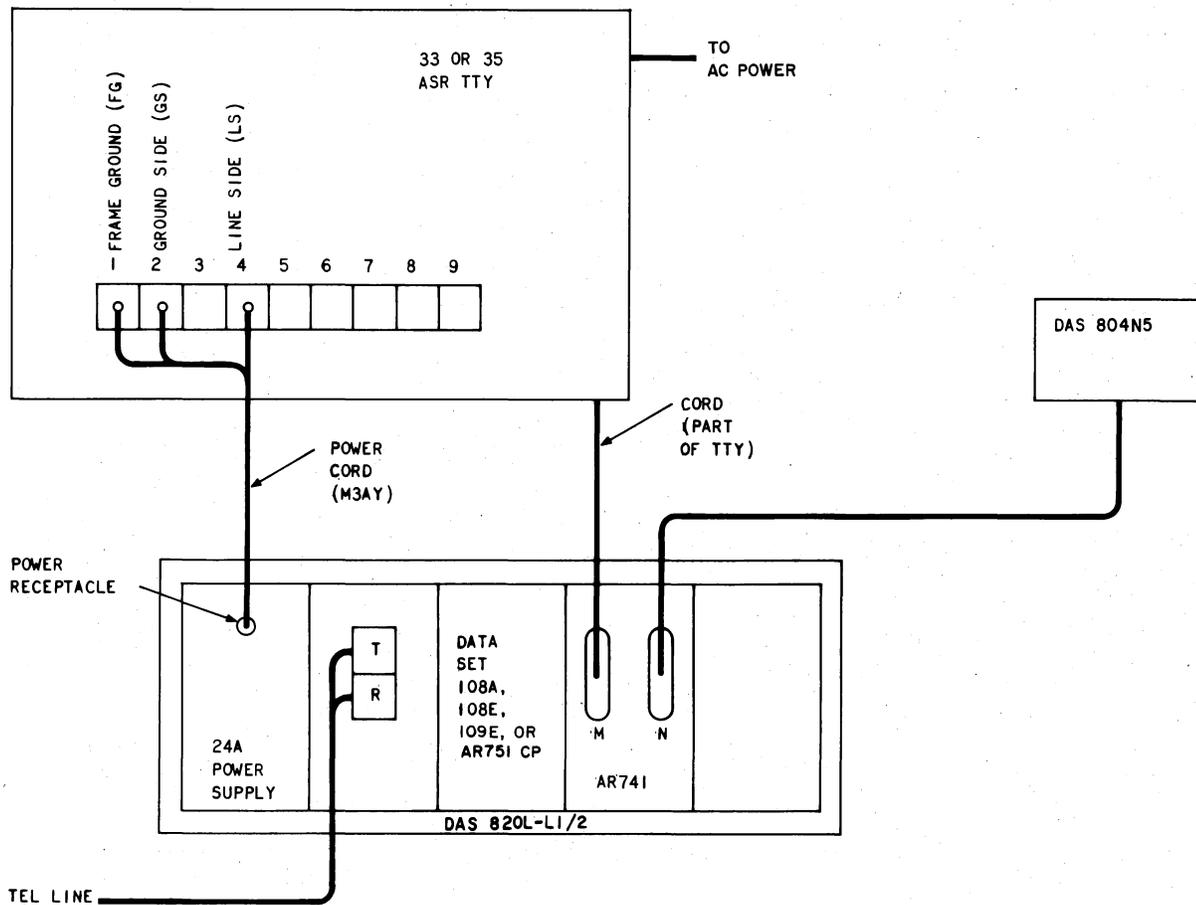
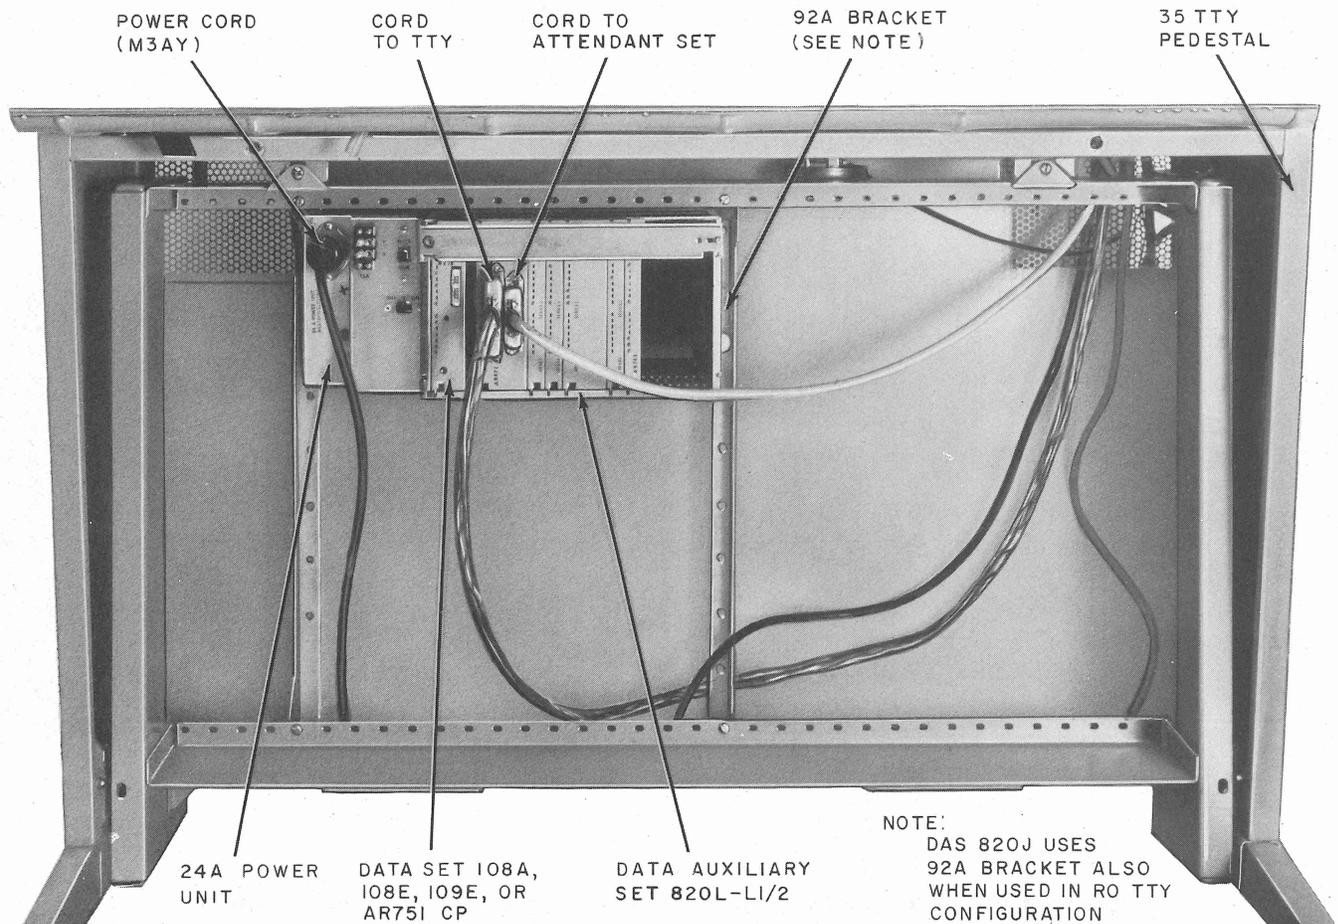

Fig. 3—33/35 ASR TTY—Interconnection of Station Components
Fig. 6—DAS 820L-Type Mounted in a TTY Using a 92A Bracket
2.07 The interconnection of station components for a 33 RO TTY station using a DAS 820J-type controller is shown by Fig. 2. The interconnections for a 33 ASR are indicated by Fig. 3. All plugs and connectors shall be installed as indicated by the applicable figure. The line connections are made to the T and R terminals on the data auxiliary set.
2.09 The interconnections of the station components for a 35 ASR TTY using a DAS 820L-type controller is shown in Fig. 3. All plugs and connectors shall be installed as indicated by Fig. 3. The DAS 820L-type controller is physically mounted using 92A brackets in the position shown in Fig. 6. The upper left portion of the TTY is used to mount the 820L controller to prevent interference between the controller plugs and the TTY door.